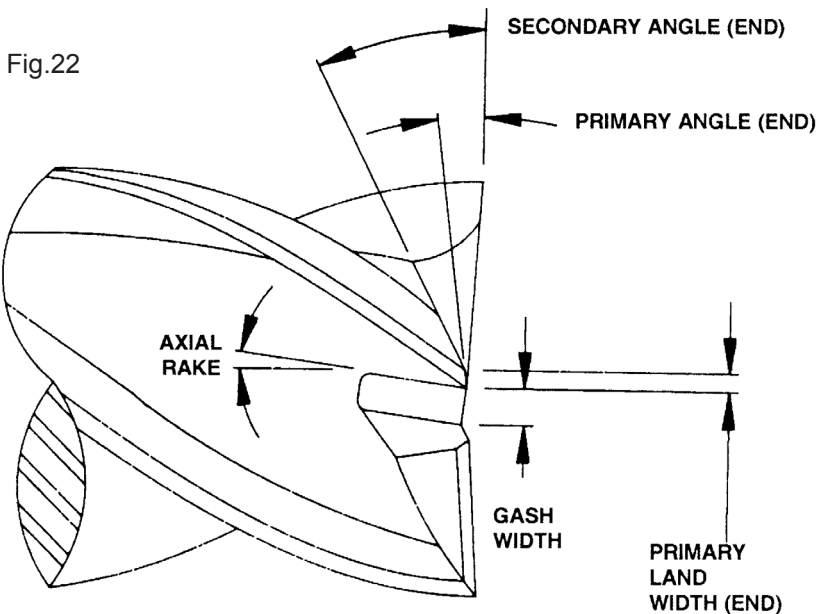

Fig.23
7. If the cutter can plunge cut, the only other process may be to relieve the gash width. A center cut cutter is one where one side of the cutter has its cutting edge to the center with clearance between the remaining cutting edges. See Fig. 23. This clearance needs to be main-tained